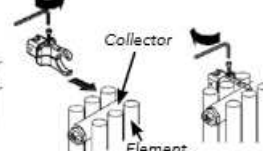

**Fig 4**
5. Raise radiator and slot into Wall sleeves "A" and tighten (**Fig. 4**).